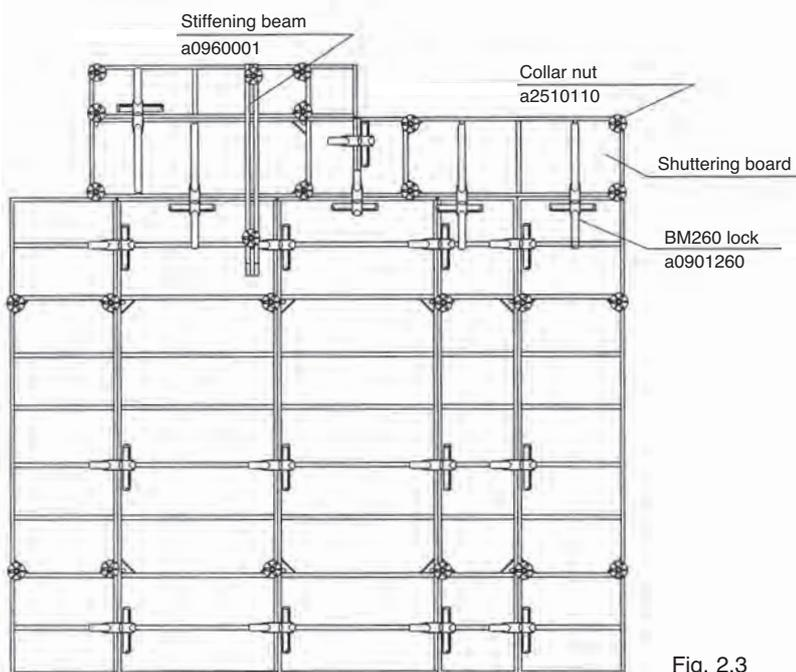

Fig. 2.3
- shuttering boards with superstructures are connected by means of BM710 locks with longer straightening shoe (710 mm) so that straightening plane is larger. A stiffening beam or boarding transom may be used instead of BM710 lock (Fig. 2.3);